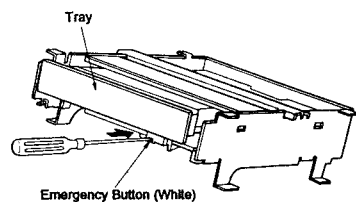
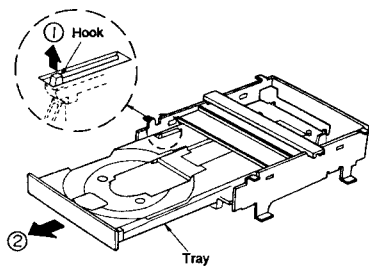

Figure 13
Figure 14
- (2) Push the Emergency Button by using a thin screwdriver as shown in Figure 13.
- (3) Draw out the Tray to limit.
- (4) Push up the hook from the reverse side as shown in the arrow ① of Figure 14.
- (5) Pull out the Tray as shown in the arrow ② of Figure 14.